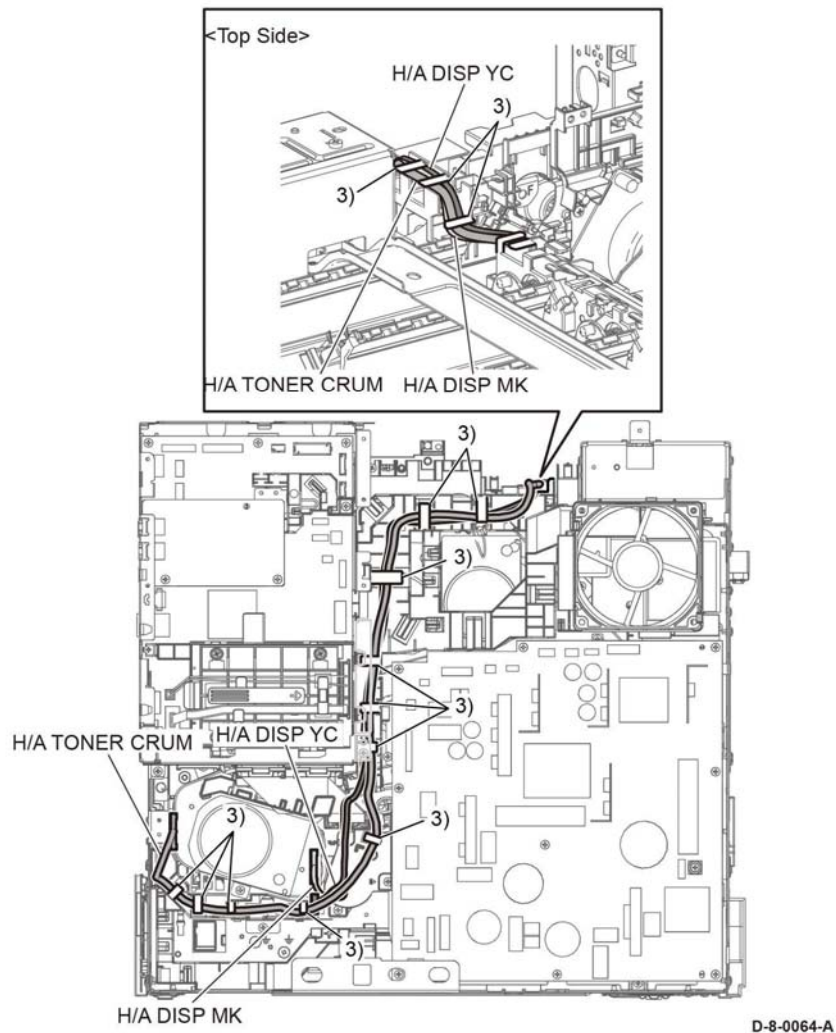

Figure 2 Release the Dispenser Drive Harnesses
3. Refer to Figure 2 to unplug the two connectors (P/J110, P/J120) from the Dispenser Drive Harness Assembly and release the harnesses from the harness guide.